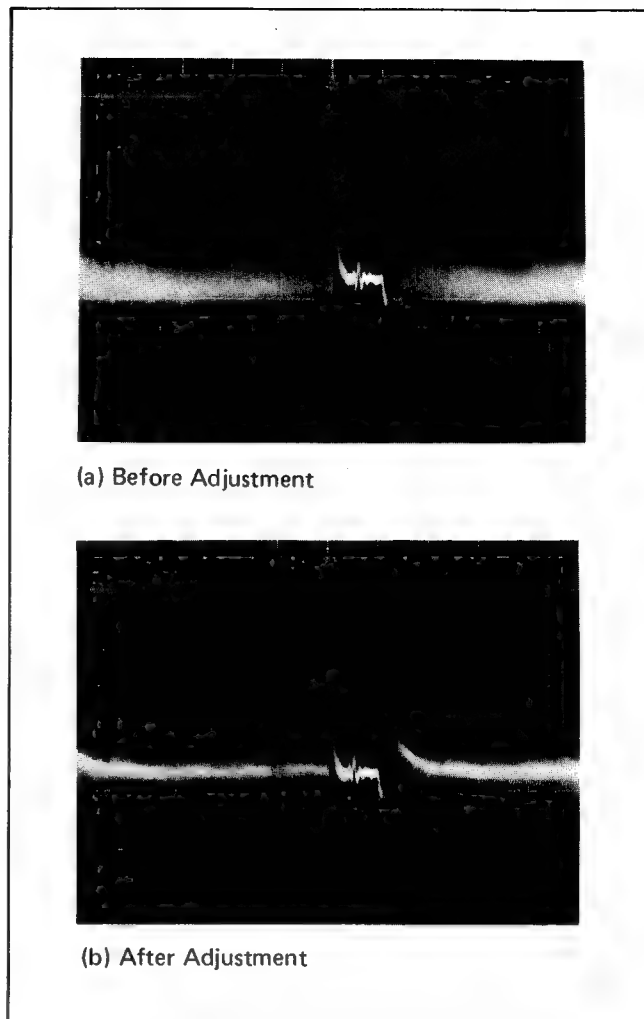

Fig. 43
4. Adjust VR328 until the clipped line appears on the waveform as shown in Fig. 43.